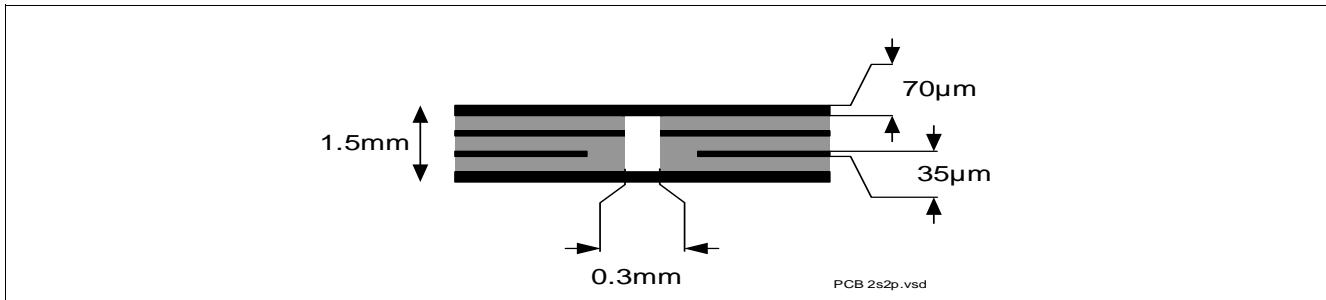

Figure 2 2s2p PCB Cross Section
2) Specified R_{thja} value is according to JEDEC JESD51-2,-5,-7 at natural convection on FR4 2s2p board; The product (chip + package) was simulated on a 76.4 x 114.3 x 1.5 mm board with 2 inner copper layers (2 x 70 μ m Cu, 2 x 35 μ m Cu). Where applicable, a thermal via array under the exposed pad contacts the first inner copper layer. Please refer to Figure 2.